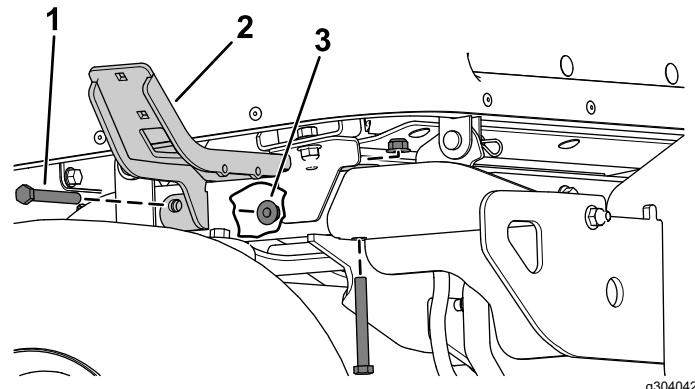

Figure 22
2. Secure the left mount and right mount to rear frame tubes using 2 hex-head bolts (3/8 x 3 inches) and 2 locknuts (3/8 inch) on each side (Figure 22).